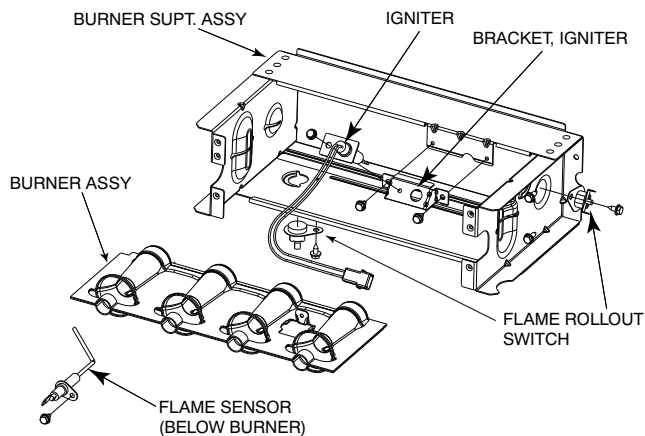

Fig. 66 - Burner Assembly
6. Remove screws attaching burner assembly to cell panel. See Fig. 66.